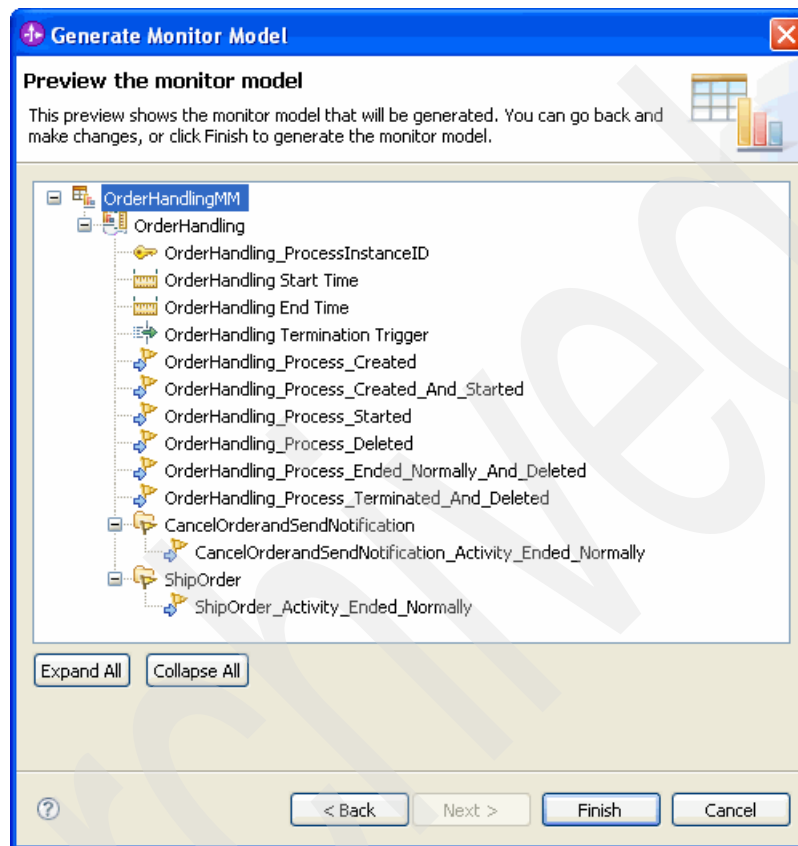

Figure 8-54 Previewing the monitor model
9. In the Generate Monitor Model – Preview the monitor model window (Figure 8-54), review the preview information for the monitor model. Click **Finish**.